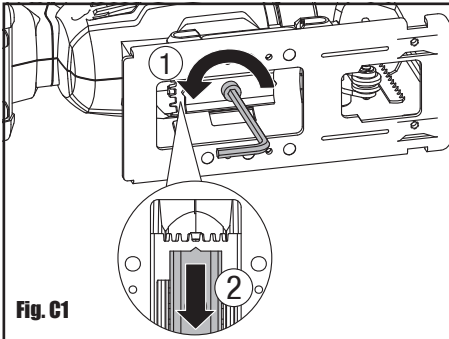

Fig. C1
4. ADJUSTING THE CUTTING ANGLE (SEE FIG. C1 - C4)
- 1) Using the supplied hex key to loosen the bolts securing the base plate by turning the bolt anti-clockwise. (See Fig. C1)
- 2) Slide the base plate backwards to be loose. (See Fig. C1)